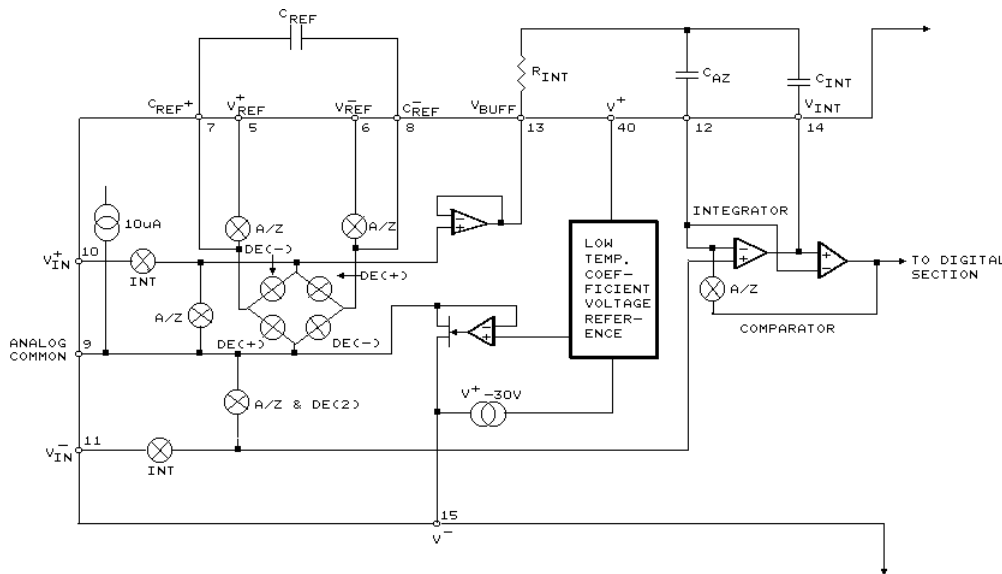

Figure 1. SH7106R/07AR/07BR Analog Section
Figure 1 shows the block diagram of the Analog Section for SH7106R and SH7107AR/BR. Each measurement cycle is divided into three parts. They are: (1) Auto-zero [A-Z] (2) Signal integrated [INT] (3) Deintegrated [DE].